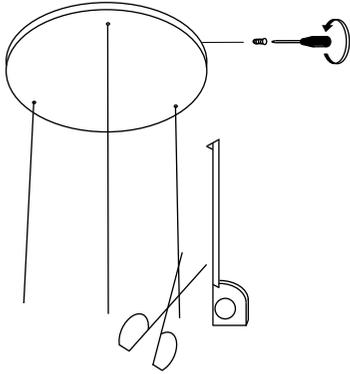

Fig 8
6. Fix the cover to the ceiling bracket and cut strings to the required length (Fig 8).